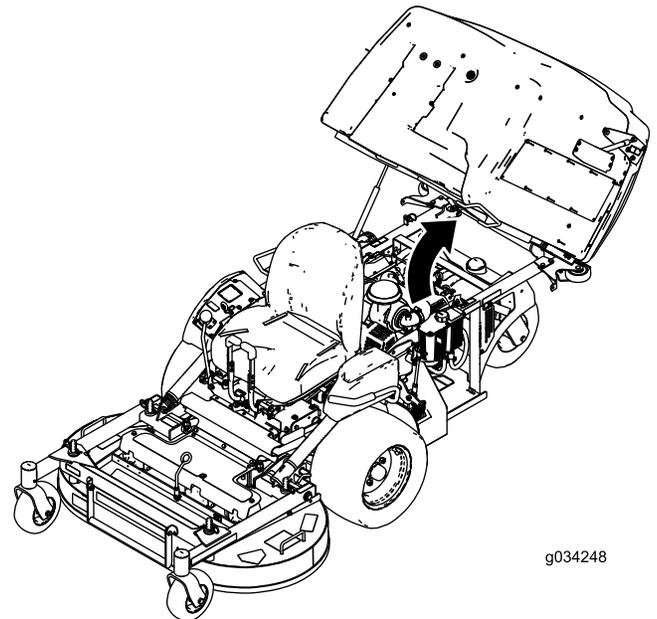

Figure 31
1. Raise up the hopper (Figure 31).